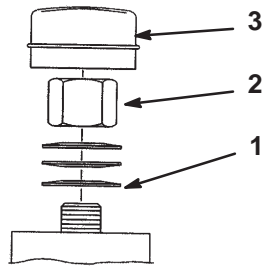

Figure 48
2. Remove dust cap from castor and tighten lock nut (Fig. 48).
3. Tighten until spring washers are flat and then back off a 1/4 turn to properly set the pre-load on the bearings (Fig. 48).
Important Make sure spring washers are installed correctly as shown in figure 48.